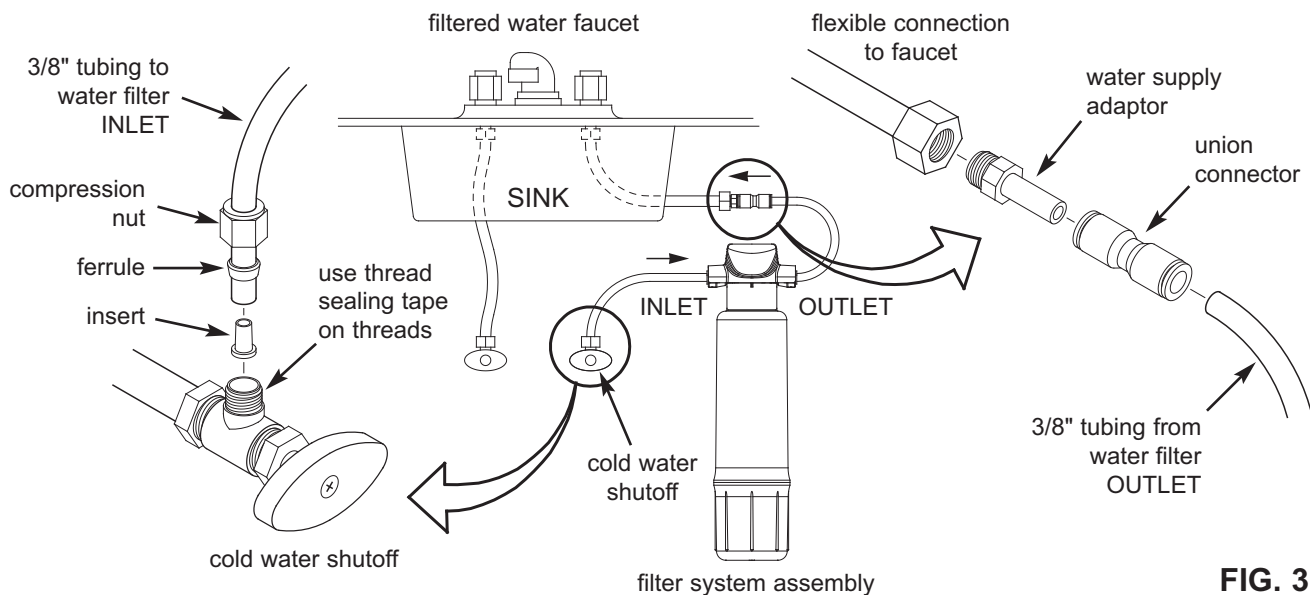

FIG. 3
Check and **comply with local plumbing codes** as you plan, then install the fittings to connect the kitchen & bath filter into the sink's cold water supply line. Fittings (9/16-24 thread) and 3/8" O.D. tubing are included to provide connections to and from the kitchen & bath filter's inlet and outlet. A typical connection using the included water supply fittings is shown in Figure 3.
3. Locate one piece of the supplied 3/8" tubing, plus the supplied compression nut, ferrule and tubing insert (See Fig. 3). Assemble the parts onto the tube, as shown in Figure 3, and thread the compression nut onto the cold water shutoff. Tighten to provide a leak-tight connection.
4. Locate the water supply adaptor (supplied) and install it into the nut on the supply line which you disconnected in Step 2. Refer to Figure 3.
5. Press the stem of the water supply adaptor into one end of the supplied union connector (See Figure 3). Be sure to push the stem all the way in.